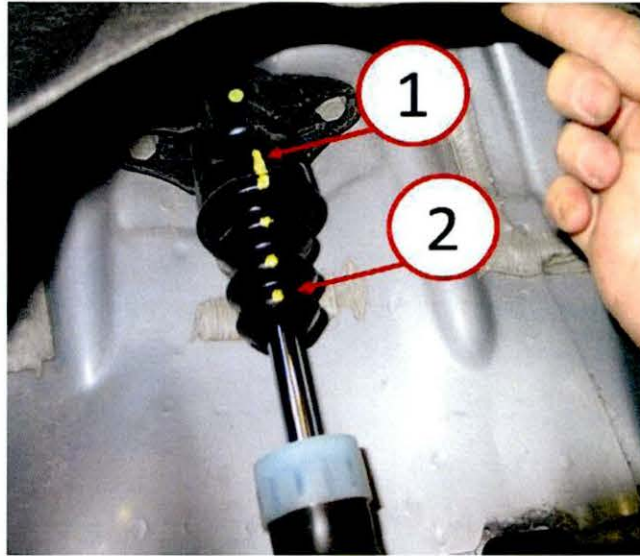

Fig. 3 Jounce Bumper Alignment
8. Mark the upper shock mount (1) and jounce bumper (2) as shown (Fig. 3), to assist in proper alignment during re-assembly.
9. Pull the jounce bumper (2) downward from the upper mount (1) (Fig. 3) to expose the upper surface of the jounce bumper and thoroughly clean it with isopropyl alcohol.